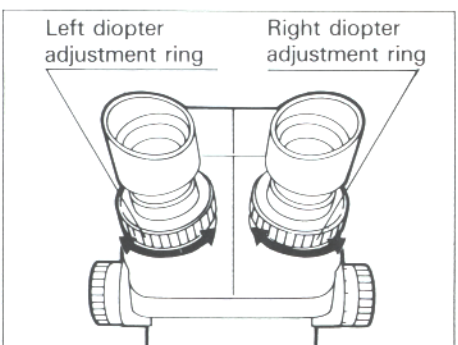

Fig. 4
- (1) Maximize the magnification power by turning the zoom control knobs.
- (2) Looking through the right eyepiece, bring the specimen into focus by turning the focusing knobs.
- (3) Minimize the magnification power by turning the zoom control knobs.
- (4) If the specimen goes out of focus, readjust the focus by turning the right diopter adjustment ring only. (Fig. 4)
- (5) Maximize the magnification power again by turning the zoom control knobs. If the specimen goes out of focus, repeat steps (2) through (4) above. This allows more precise diopter adjustment.
- (6) Minimize the magnification power by turning the zoom control knobs and, looking through the left eyepiece, bring the specimen into focus by turning the left diopter adjustment ring only. (Fig. 4)